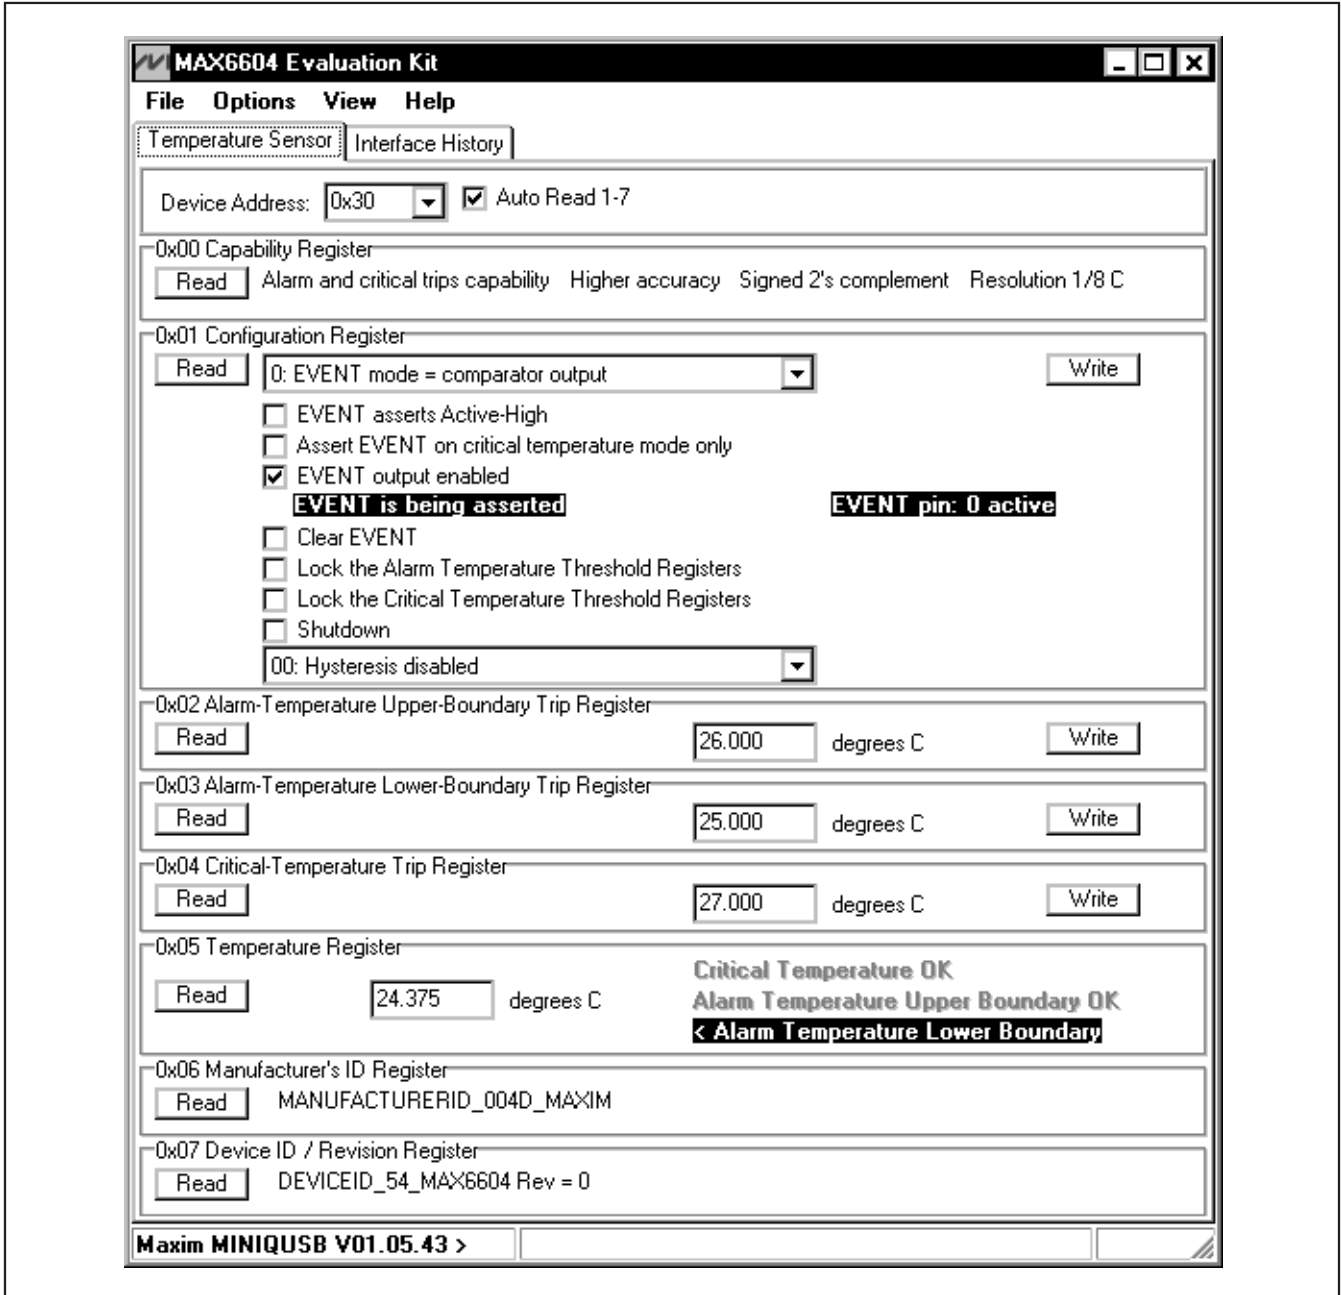

Figure 1. MAX6604 EV Kit Software Main Window (Temperature Sensor Tab)
- 6) Start the MAX6604 EV kit software by opening its icon in the **Start | Programs** menu. The EV kit software main window appears, as shown in Figure 1.
thresholds. The alarm is indicated by the INT pin being asserted and by the status indicators in the **0x05 Temperature Register** group box (alarm can also be tested by setting the threshold value below the measured temperature, as shown in Figure 1).
The main window of the evaluation software (Figure 1) displays the registers of the MAX6604 temperature sensor. Each register has a **Read** button, and each writable register has a **Write** button. The status of the EVENT output pin is displayed inside the **0x01 Configuration Register** group box, next to the **EVENT output enabled** checkbox.
The **Temperature Sensor** tab sheet displays the temperature sensor registers of the MAX6604 (Figure 1). Each register has its own **Read** button, and each writable register has a **Write** button. The **Auto Read 1-7** checkbox enables periodic polling of all register values. The software determines the **Device Address** when first starting up, by searching all eight possible I²C device addresses. This value must be manually changed if the JU1, JU2, and JU3 address-select jumpers are changed while the program is running.